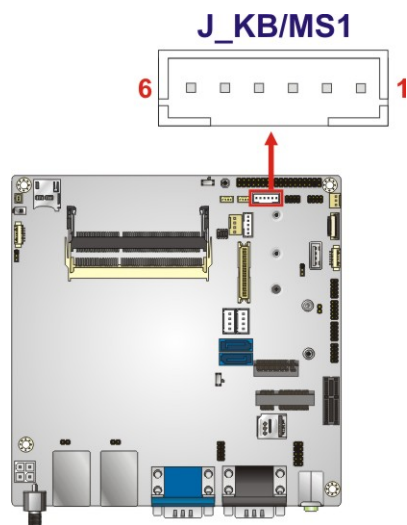

Figure 3-11: Keyboard and Mouse Connector Location
- CN Location:** See **Figure 3-11**